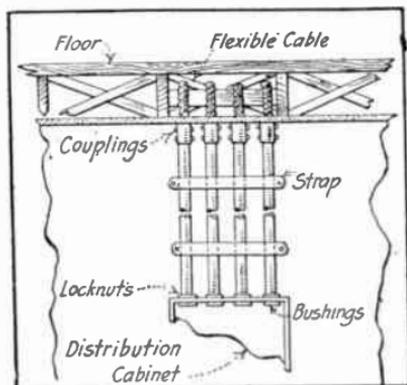

Fig. 3. Combination rigid and flexible conduit wiring
*Couplings cannot be used with armored cable.* While couplings or "straight" connectors may be used for joining together lengths of flexible steel conduit, they cannot be used with armored cables, inasmuch as it must be continuous from outlet to outlet without joints or splices. Fig. 3 shows the application of couplings for joining rigid and flexible conduit. Couplings should not be applied in this manner in armored cable runs.